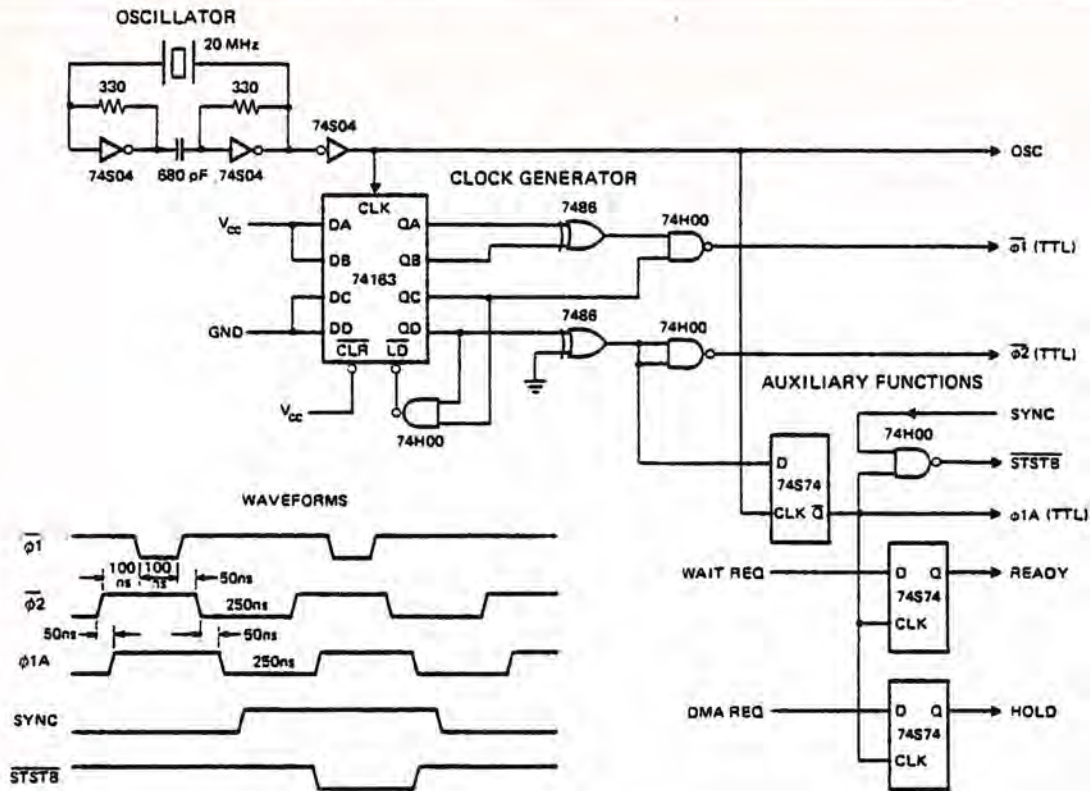

Figure 3-3. 8080 Clock Generator
The oscillator provides a 20 MHz signal to the input of a four (4) bit, presettable, synchronous, binary counter. By presetting the counter as shown in figure 3-3 and clocking it with the 20 MHz signal, a simple decoding of the counters outputs using standard TTL gates, provides proper timing for the two (2) 8080 clock inputs.
The Clock Generator diagram also shows how to generate an advanced timing signal ( $\phi 1A$ ) that is handy to use in clocking "D" type flipflops to synchronize external requests. It can also be used to generate a strobe ( $\overline{STSTB}$ ) that is the latching signal for the status information which is available on the Data Bus at the beginning of each machine cycle. A simple gating of the SYNC signal from the 8080 and the advanced ( $\phi 1A$ ) will do the job. See Figure 3-3.